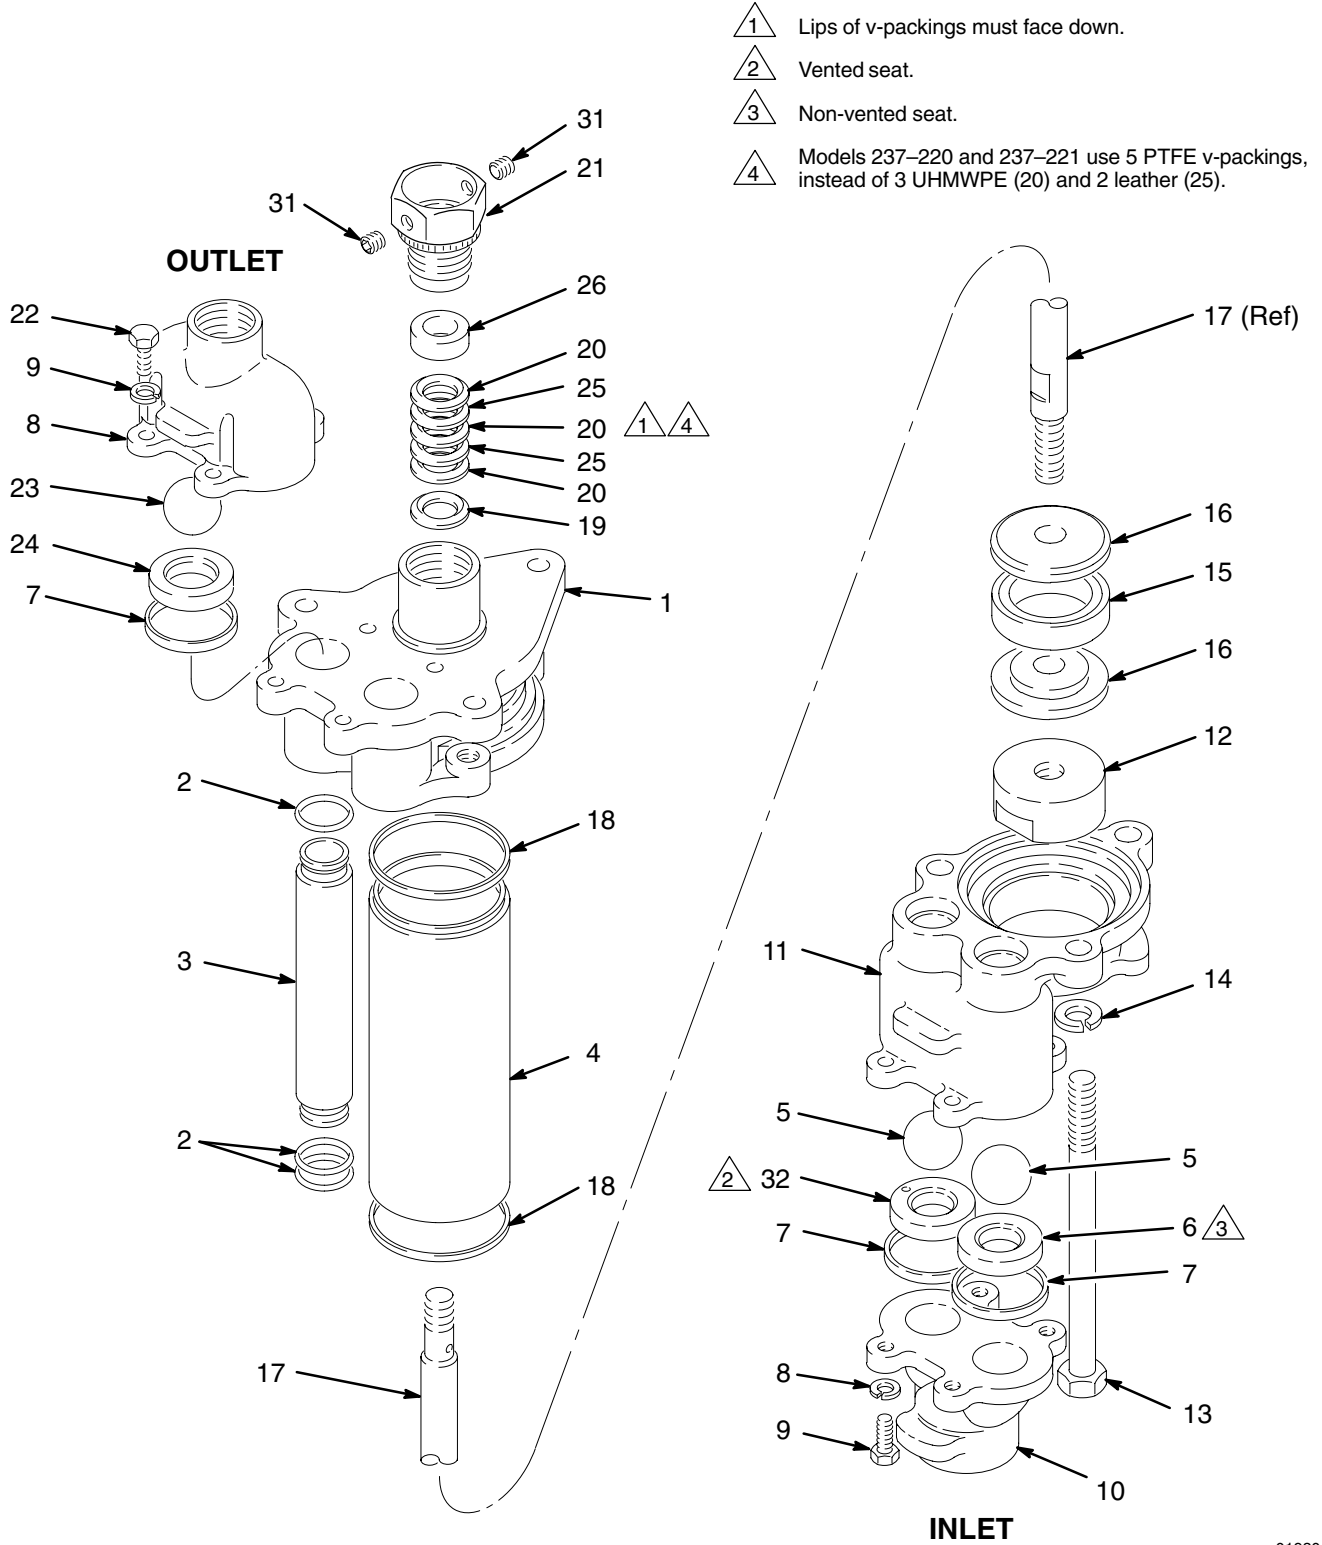
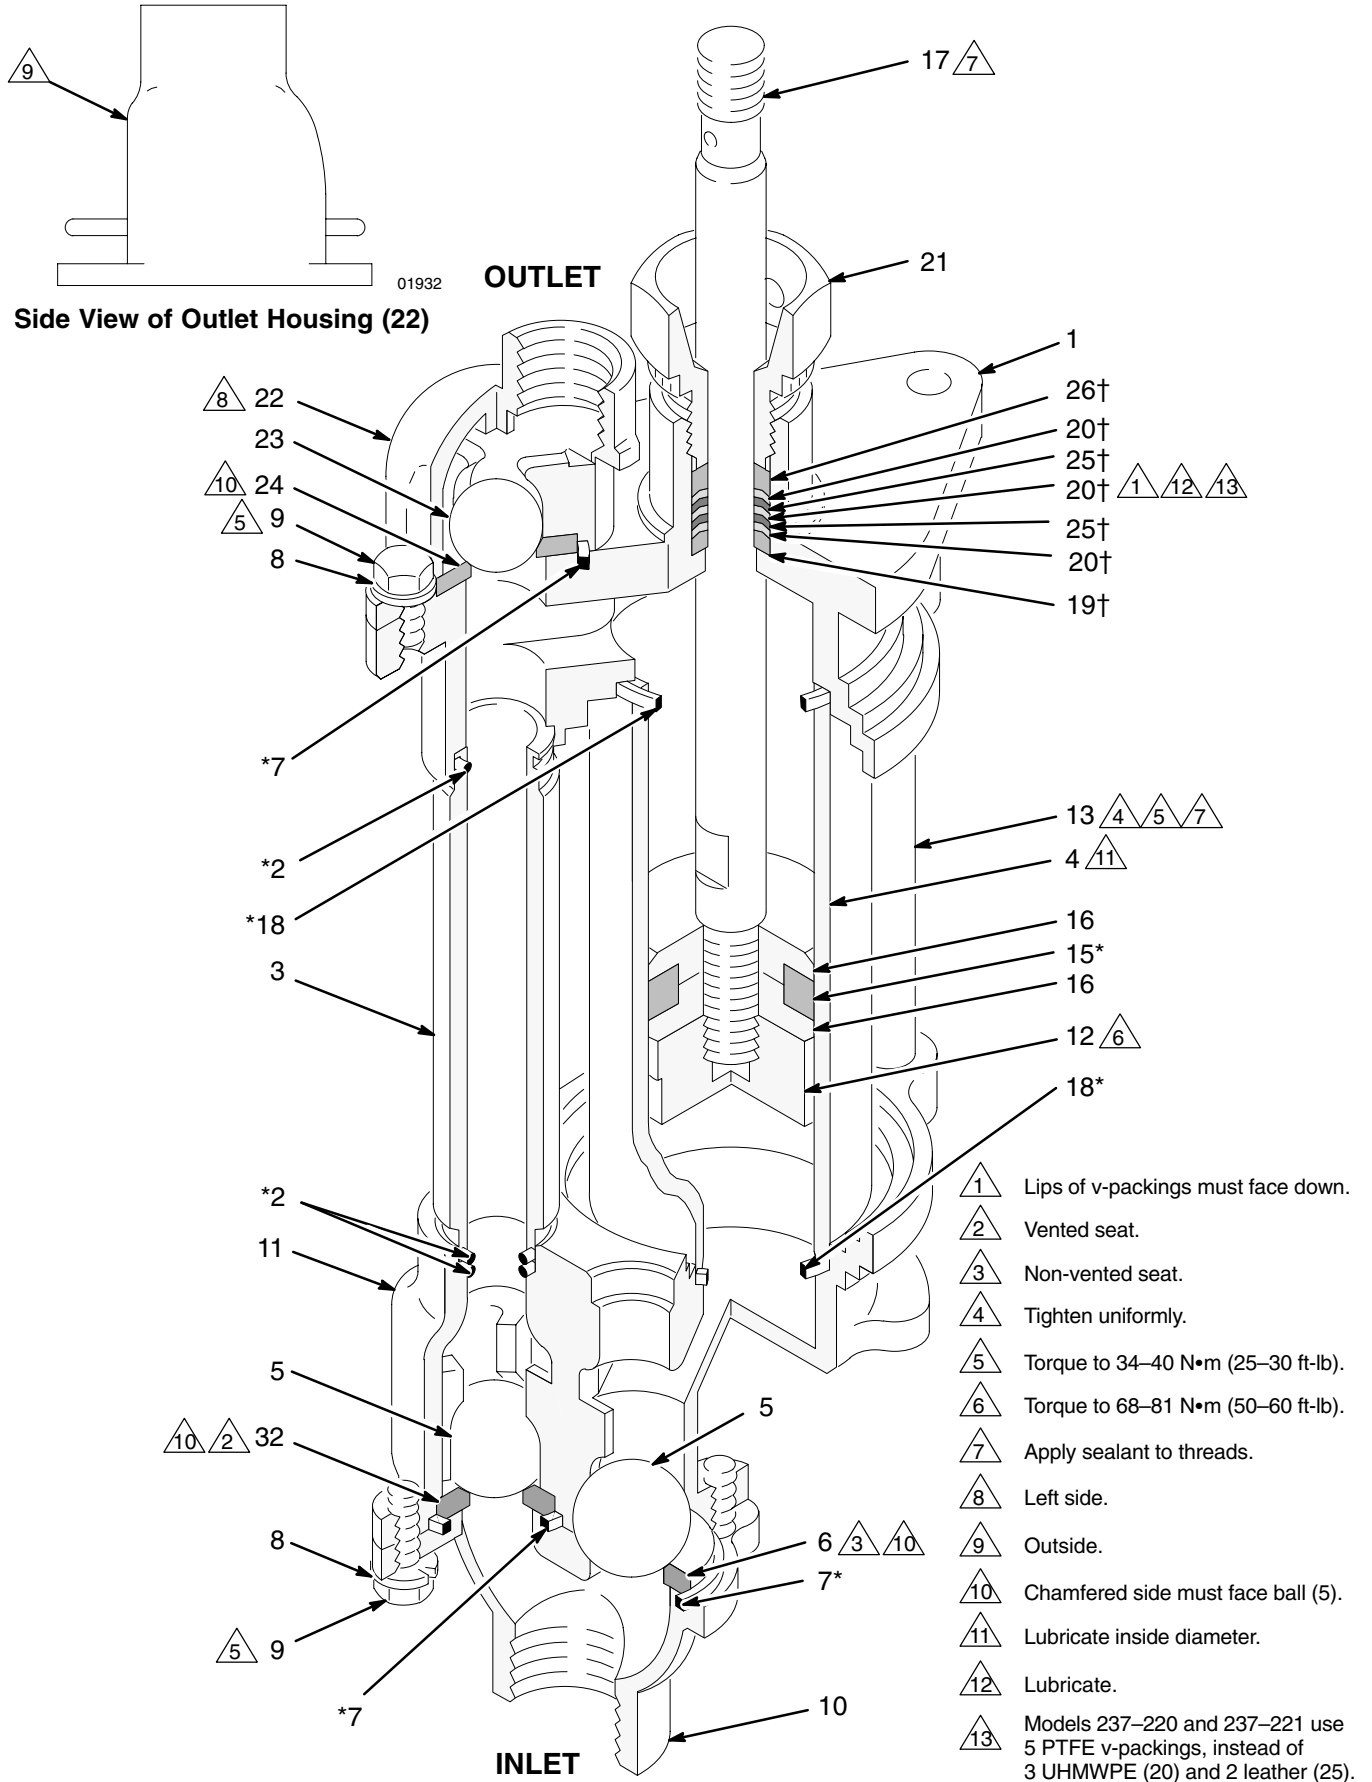

Fig. 9
Fig. 10
2. Secure the displacement pump intake housing (10) in a vise.
3. Refer to Fig. 9. Remove the four capscrews (9) and washers (8) from around the pump outlet housing (22).
4. Remove the outlet housing (22), balls (23), seats (24) and gaskets (7).
5. Remove the three tie bolts (13) and lockwashers (14). Lift off the upper pump housing (1), along with the fluid tubes (3), cylinder (4), and piston assembly (16).
6. Remove the packing nut (21), glands (19, 26) and packings (20, 25) from the upper housing (1).
7. Remove the tubes (3) and cylinder (4) from the housing.
8. Remove the intake housing (10) from the vise.
9. Remove the four capscrews (9) and washers (8) from the intake housing (10). Use a flatblade screwdriver inserted between the lower pump housing (11) and the intake housing (10) to separate the parts.
10. Remove the balls (5), seats (6 and 32) and gaskets (7).
NOTE: One of the seats (32) has a vent hole. Take note of the side of the pump in which this seat is used (the left side when viewed as shown in Fig. 9).
1. Place the two halves of the piston (16) around the packing (15*) and snap them together. See Fig. 10.
2. Apply thread sealant to the piston rod (17) threads. Screw the rod through the piston and packings and into the special piston nut (12). Torque the nut to 68–81 N•m (50–60 ft-lb).
3. With the lower pump housing (11) turned upside down, install the balls (5). Install the seats; place the vented seat (32) in the left side as viewed in Fig. 9 (housing has a label to identify the correct side), and the non-vented seat (6) in the right side. Install the gaskets (7*).
4. Place the intake housing (10) on the lower pump housing (11). Install the lockwashers (8) and capscrews (9). Torque to 34–40 N•m (25–30 ft-lb). See Fig. 10.
5. Place the intake housing (10) in a vise. Place one o-ring (2*) **in each side of the lower pump housing (11)** where the tubes (3) sit. Place another o-ring (2*) **in the grooves at each end of the tubes**. Place a gasket (18*) in both the upper and lower housings (1 and 11). Position the tubes and cylinder (4) in the lower housing (11).
6. Lubricate the inside of the cylinder (4). Slide the piston assembly into the cylinder.
7. **Lubricate the throat packings and glands.** Install them one at a time in the throat of the upper pump housing (1). Make sure the lips of the v-packings face down into the housing, and use a finger to seat the parts: the male gland (19†), one UHMWPE packing (20†), one leather packing (25†), UHMWPE, leather, UHMWPE, and the female gland (26†). Install the packing nut (21) finger-tight.